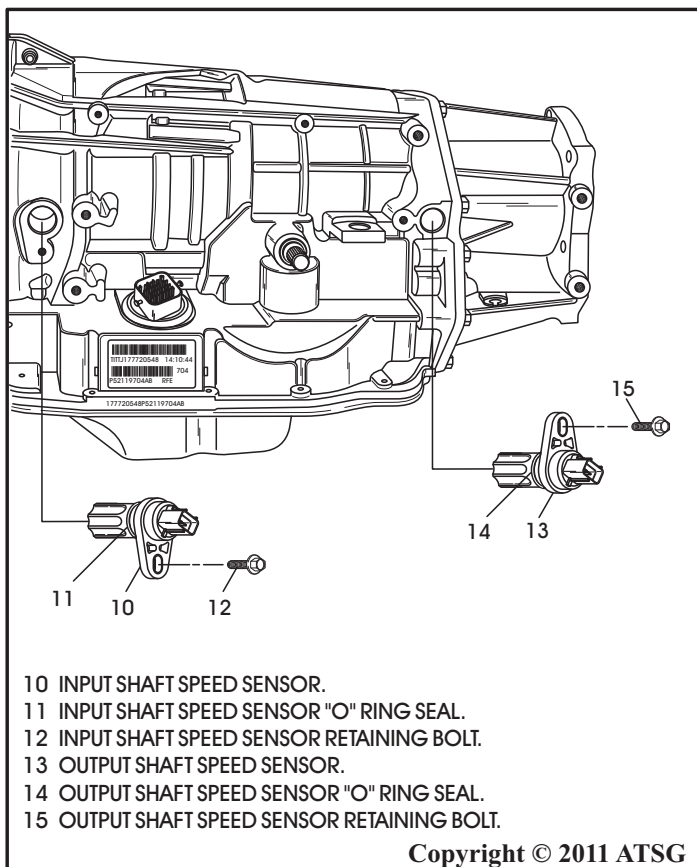

Figure 34
6. Remove both input and output speed sensors from the case, as shown in Figure 34, remove and discard both "O" rings.